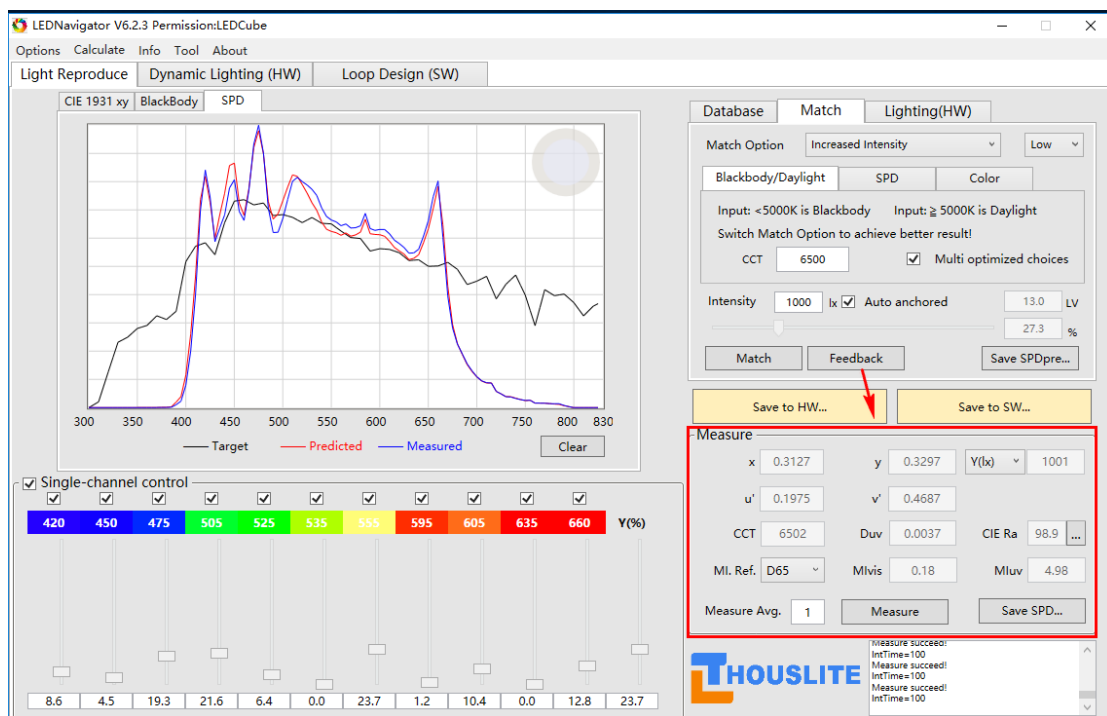

Fig. 5.4 Measured result after first *Feedback*
- 8) Press *Feedback*, Fig. 5.4 shows the measured CCT=6502K, CIE Ra=98.9, MI=0.18, Intensity=1001lx, which is really excellent light quality;